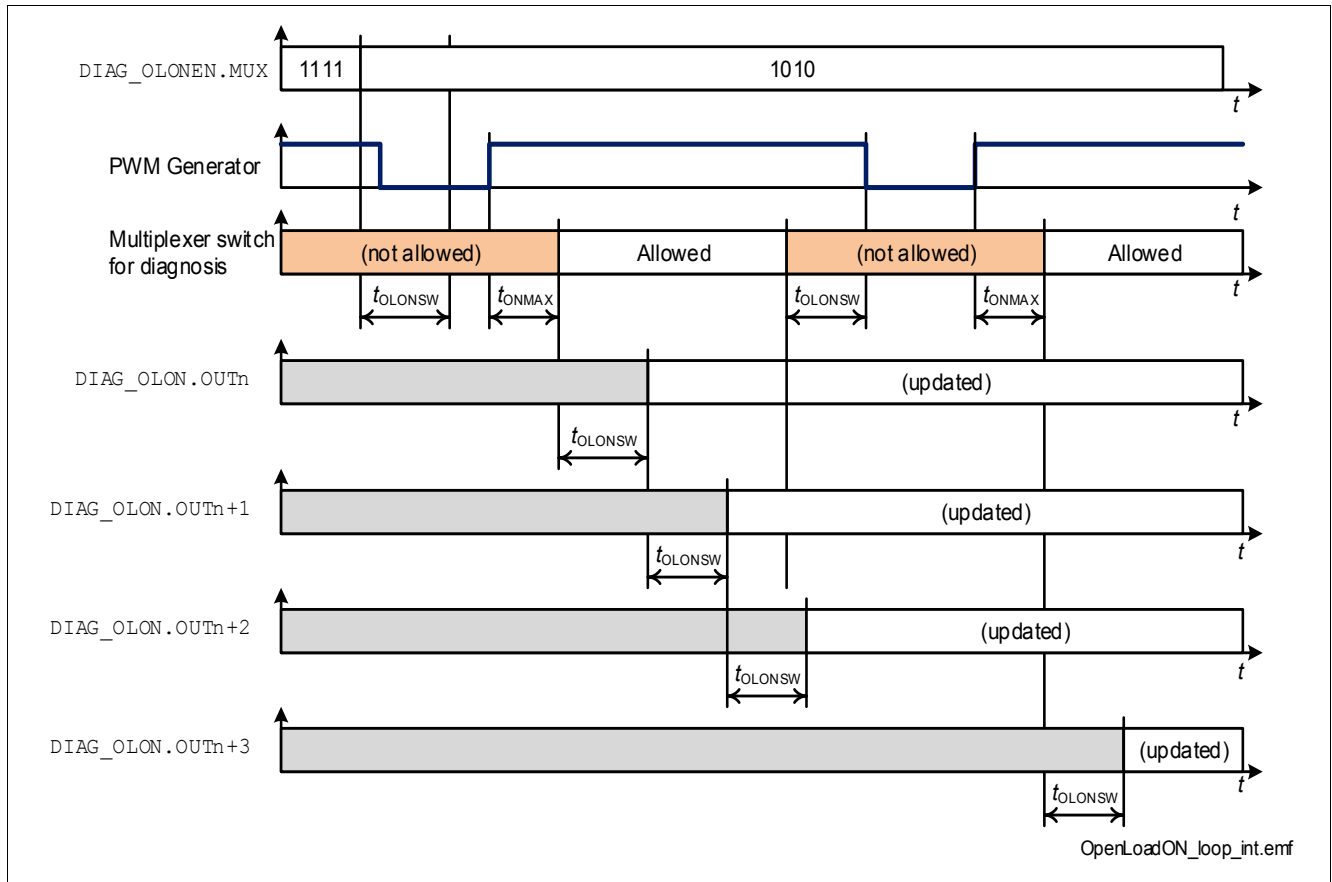

Figure 32 Open Load at ON timings (diagnosis loop - channels driven by internal PWM Generators)
**Figure 31** shows the timing in case of channels driven directly by micro-controller, while **Figure 32** represents the case with channels driven by internal PWM Generators.